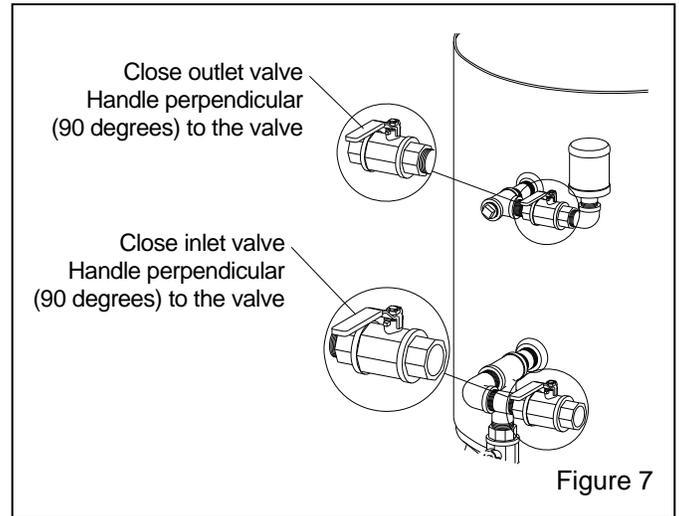

Figure 7
**3.2.7** Close the inlet valve and outlet valve (handles perpendicular to the valves) as shown in Figure 7.